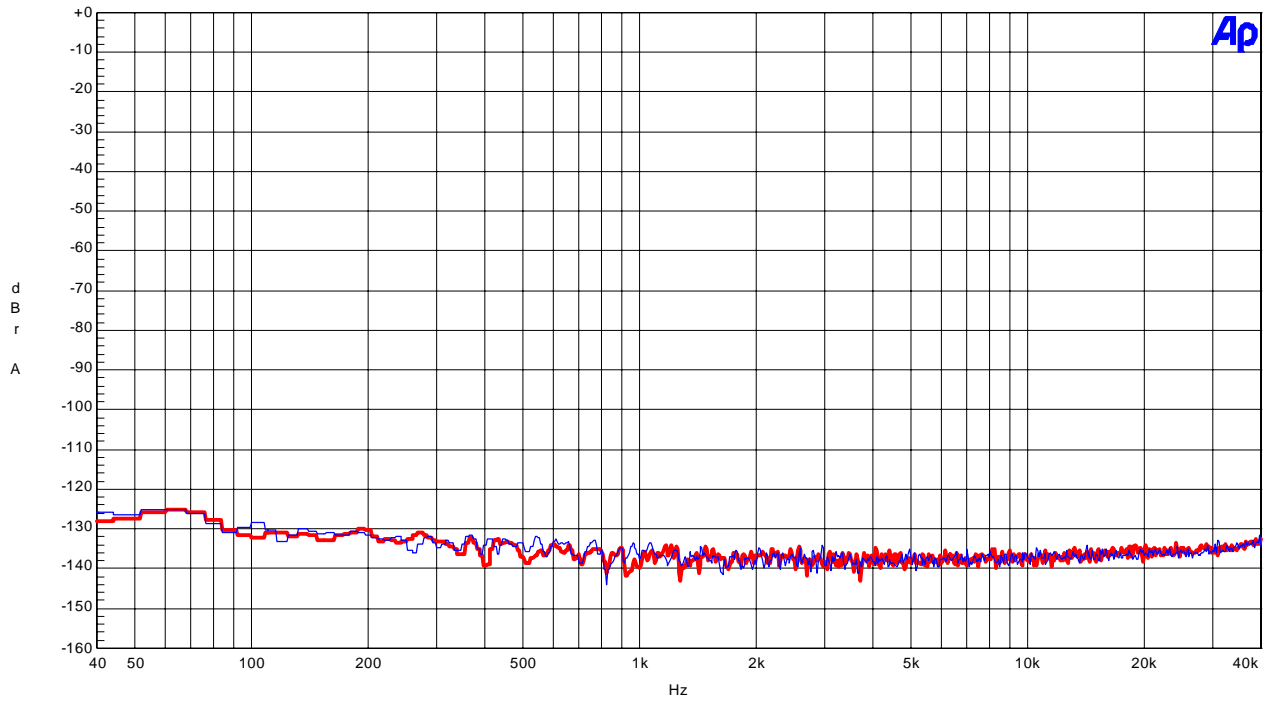

Figure 12. FFT (Noise floor)
- Figure 12. FFT (Noise floor)